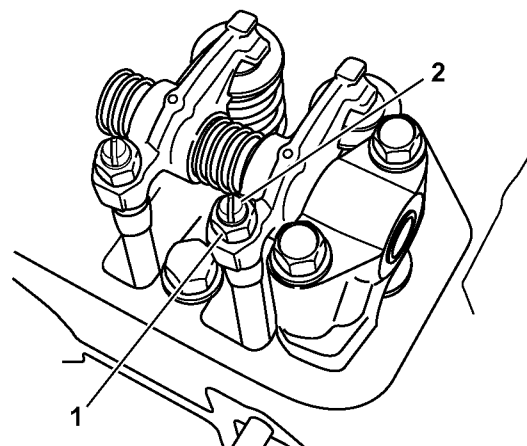

Figure 6-39
5. Loosen the valve adjusting screw lock nut (Figure 6-39, (1)) and valve adjusting screw (Figure 6-39, (2)) on the rocker arm and check the valve for inclination of the valve cap, entrance of dirt, or wear.
6. Insert a feeler gauge of the correct thickness (Figure 6-40, (1)) (see *Adjustment Specifications on page 6-4*) between the rocker arm and valve cap. Turn the valve adjustment screw to adjust the valve clearance so there is a slight “drag” on the feeler gauge when sliding it between the rocker arm and the valve cap. Hold the adjusting screw while tightening the valve adjusting screw lock nut (Figure 6-39, (1)). Recheck the clearance.